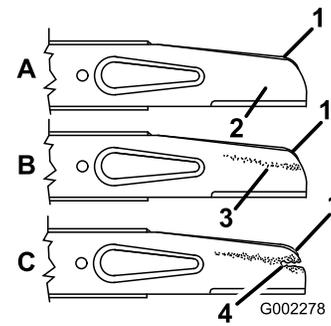

Figure 27
2. Remove the blade nuts, the accelerator, and the blade (Figure 27).